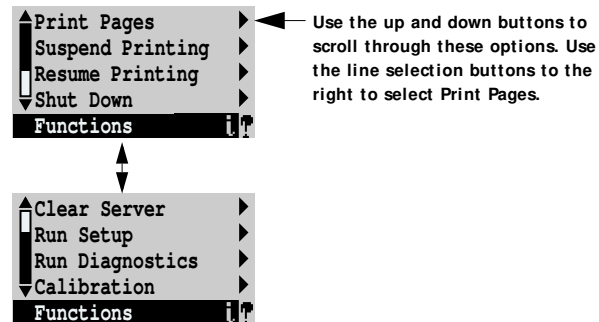

FIGURE 3-3 Functions menu
4. At the Idle screen, press the menu button once (see “Using the Control Panel” on page 3-11). The Functions menu appears as shown in Figure 3-3.